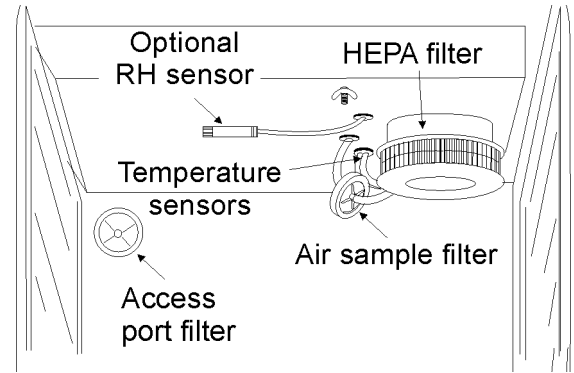

Figure 1-9. Filter and Sensor Locations
4. Insert the free end of the air sample filter tubing into the larger hole in the back of the blower scroll. See Figure 1-9 for completed configuration.
3. Install the filter as shown in Figure 1-9.